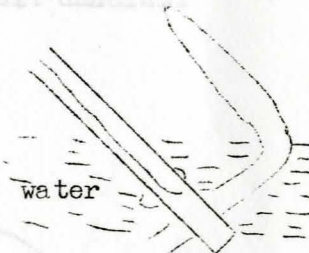

FIG. 4
STEP 4--To form hook bend back as shown in Fig. 4, cool up to the bend then turn back.